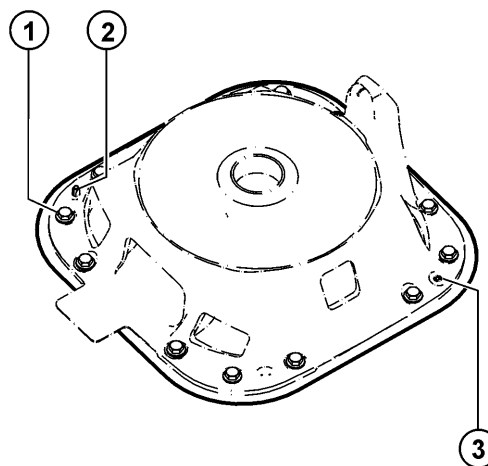

Fig. 6-4: Machine frame mounting
- Pin with fasteners (>>> Fig. 6-4)